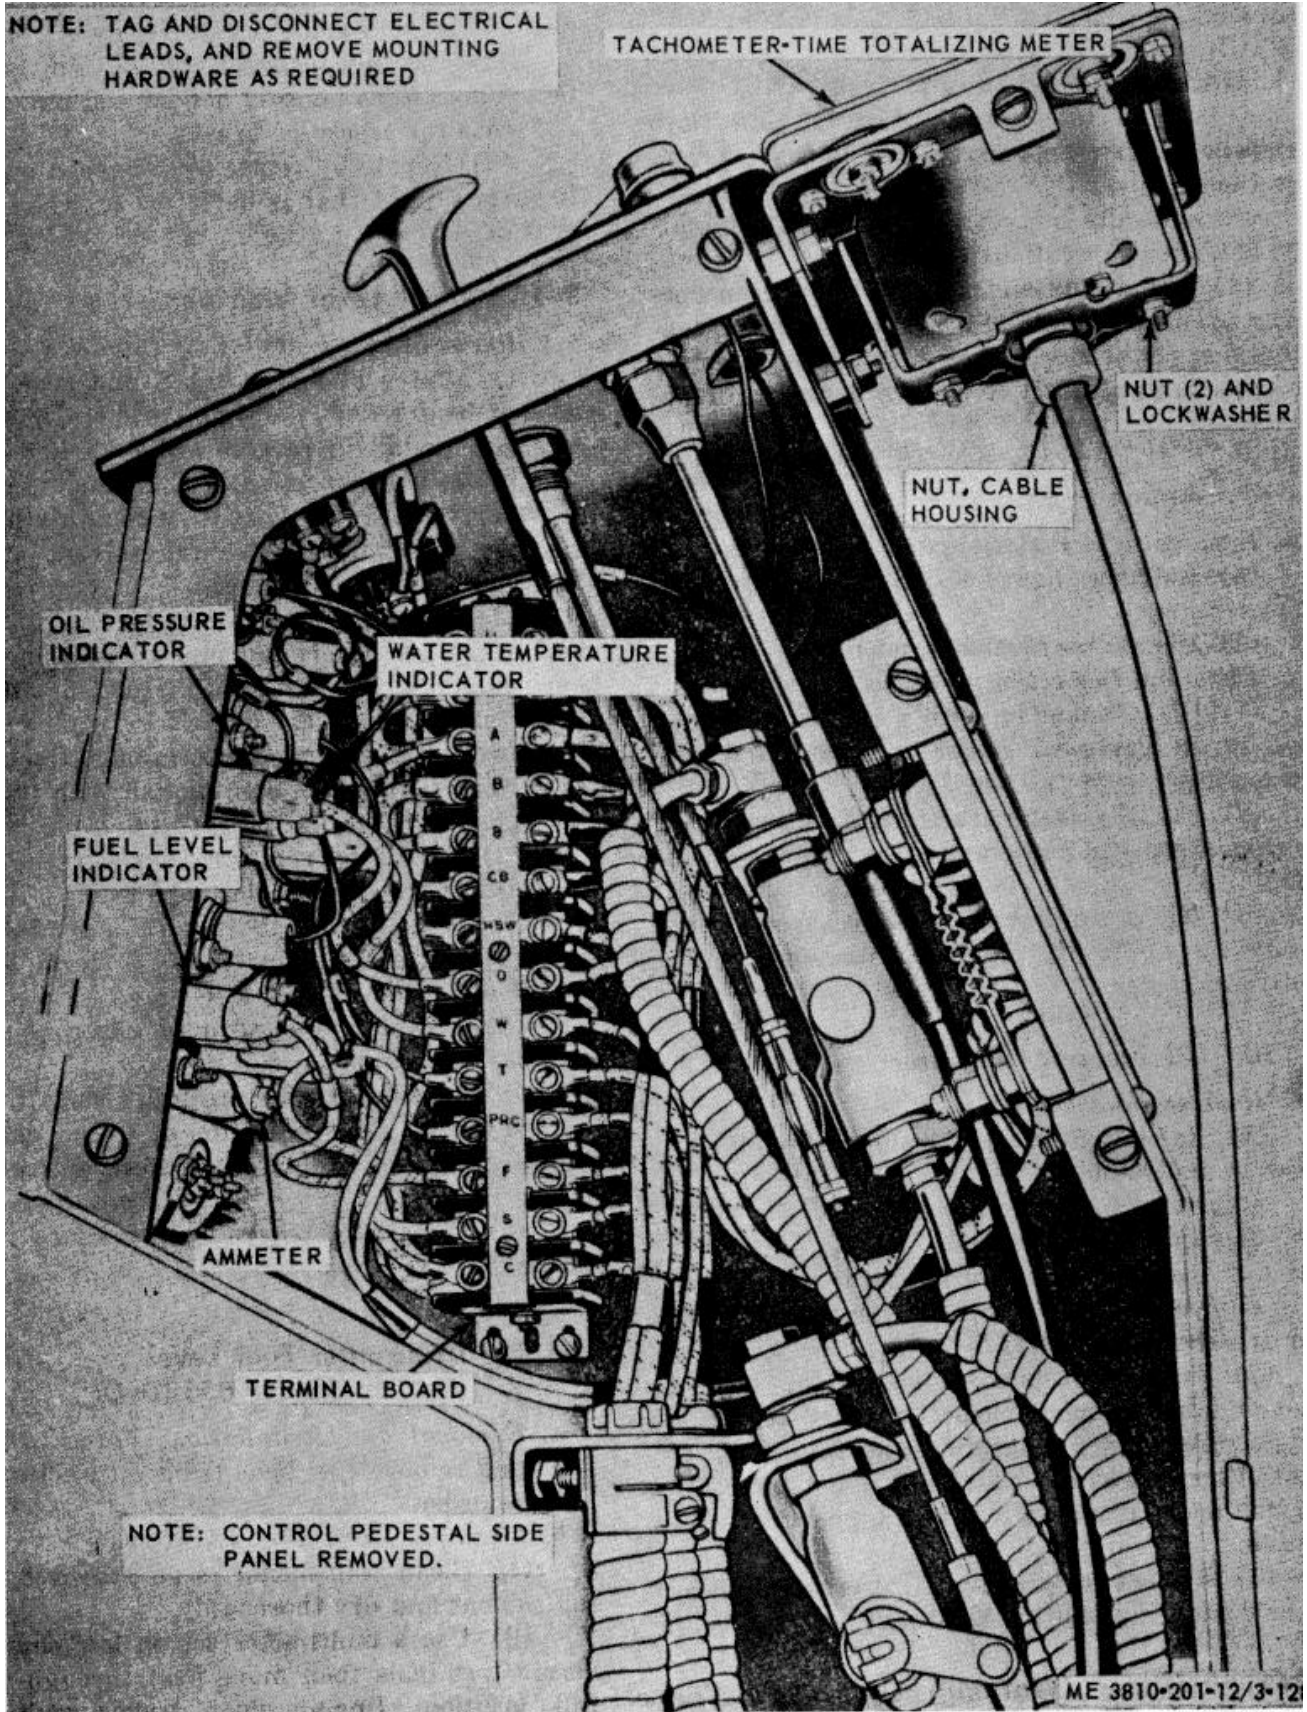

Figure 3-128. Tachometer-time totalizing meter, oil pressure indicator, fuel lever indicator, and ammeter, removal and installation.
(1) Refer to figure 3-128 and loosen cable housing nut.
(2) Remove two nuts and lockwashers securing tachometer to control panel, then lift tachometer
(1) Refer to figure 3-128 and remove the ammeter.
(2) Install in reverse order.
(1) Refer to figure 3-128 and remove the oil pressure indicator.
(1) Refer to figure 3-128 and remove fuel level indicator.
(1) Refer to figure 3-128 and remove the water temperature indicator.
(1) Refer to figure 3-128 and remove terminal board.